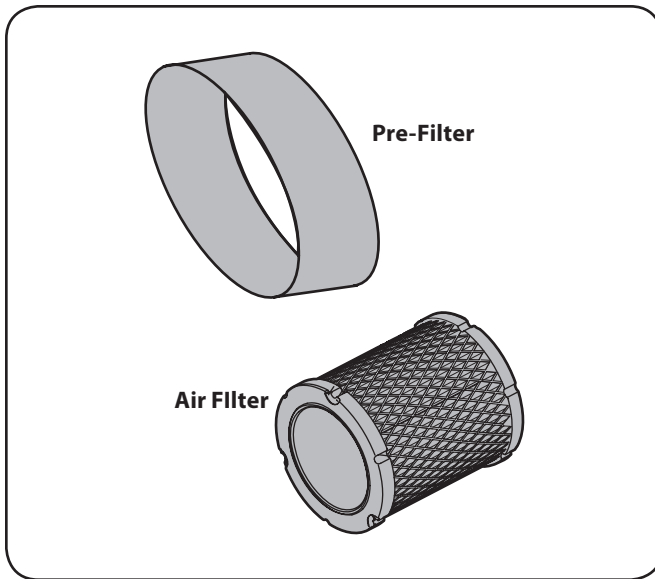

Figure 6-6
- Remove the foam pre-filter from around the paper air filter. See Figure 6-6. Replace paper element when dirty or damaged. Clean foam element or replace when damaged.